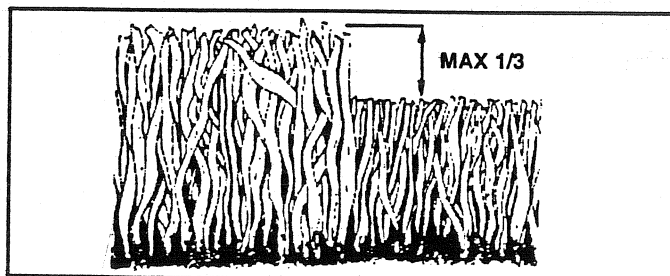

FIG. 16
- For best results, adjust the mower cutting height so that the mower cuts off only the top one-third of the grass blades (See Fig. 16). For extremely heavy mulching, reduce your width of cut and mow slowly.